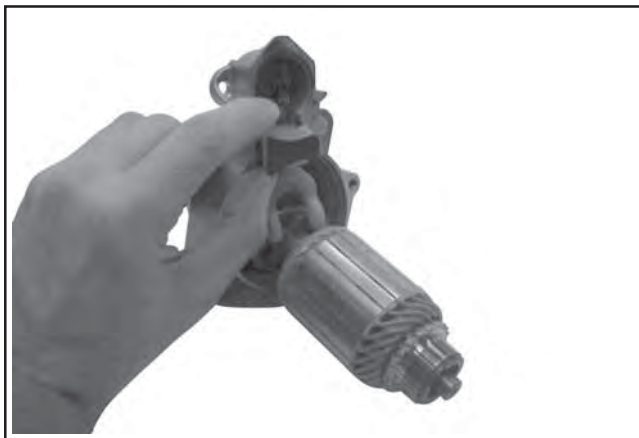

Figure 8-60. Removing Drive Lever and Armature.
8. Pull outward on the pivot portion of the drive lever, and remove the drive lever and armature from the drive end cap. See Figure 8-60.